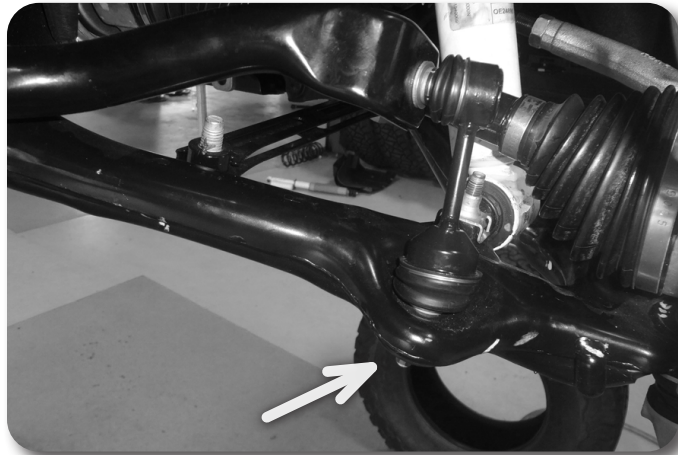

Figure 1
4. Disconnect the front driver's and passenger's side sway bar links from the lower control arm. Save hardware. **Figure 1**